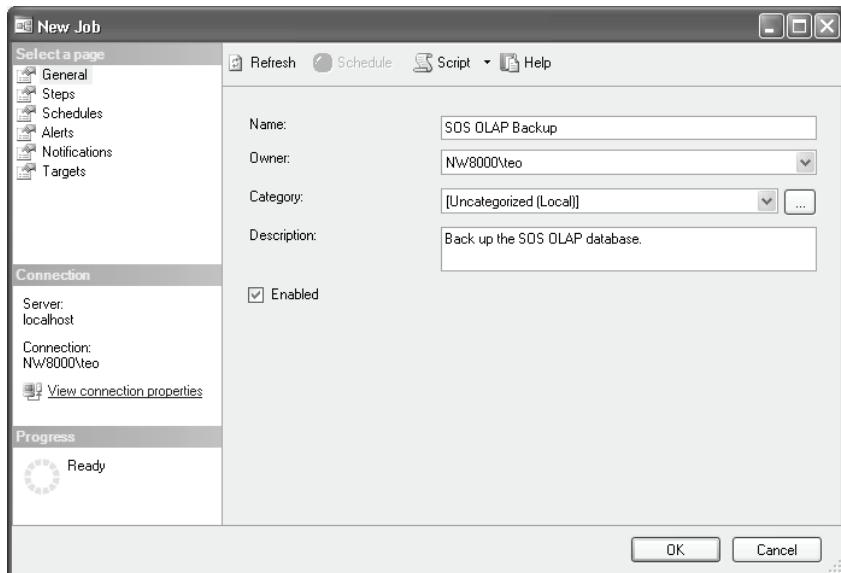

Figure 13.18 Use the SQL Server Agent to automate repetitive maintenance tasks.
4. In the New Job dialog that follows (Figure 13.18), name the new job **SOS OLAP Backup**.